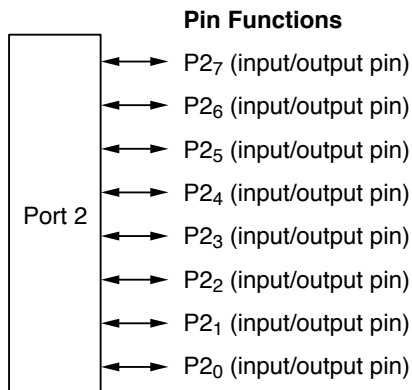

Figure 9-11 Pin Functions in Modes 2 and 7
(2) Pin Functions in Modes 2 and 7: Port 2 consists of general-purpose input/output pins. Input or output can be selected separately for each pin. A pin becomes an output pin if the corresponding P2DDR bit is set to 1 and an input pin if this bit is cleared to 0. Figure 9-11 shows the pin functions in modes 2 and 7.